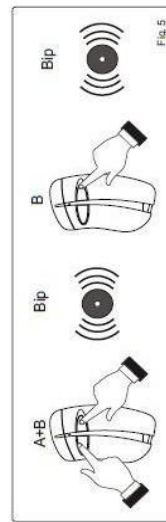

Fig. 5
7. Enabling/disabling the activation bip (Fig. 5)